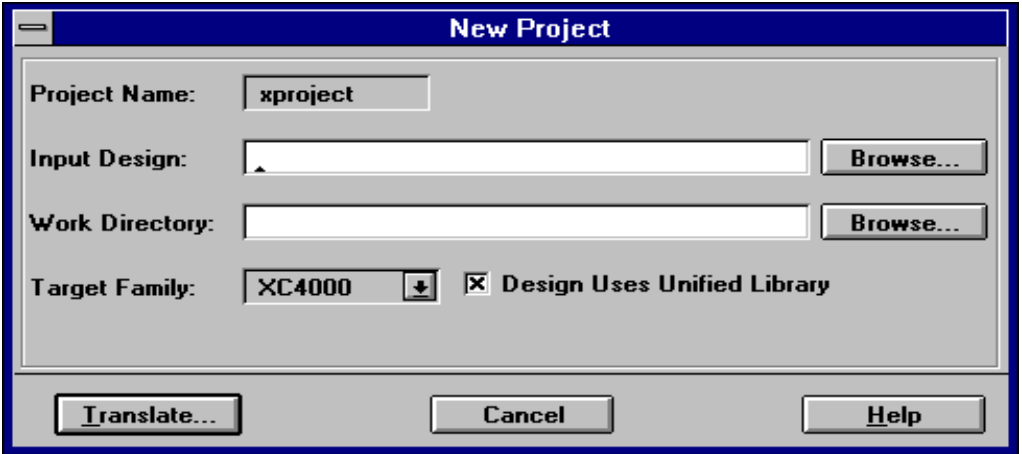
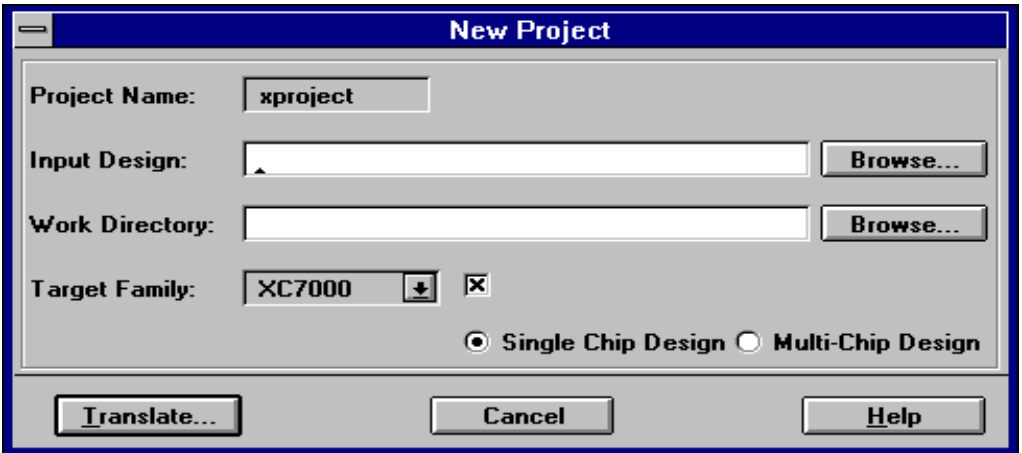

Figure 3-1 New Project Dialog Box (FPGA)
Figure 3-2 New Project Dialog Box (EPLD Devices)
The New Project dialog box appears as shown in Figure 3-1 for FPGA devices and in Figure 3-2 for XC7000 EPLD devices.
3. Select the appropriate Target Family in the New Project dialog box (see Figure 3-1 and Figure 3-2).
4. If you are using an XC7000 family device, select either the Single Chip Design or Multi Chip Design check box (see Figure 3-2).